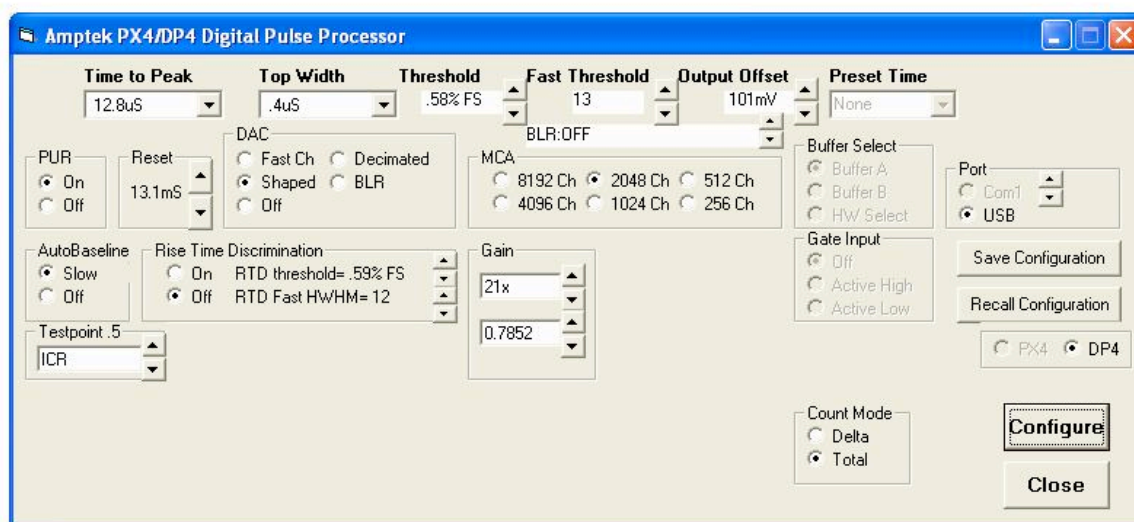

Figure 9. View of configuration setting “load DP4 configuration panel”
- “load DP4 config panel” (Figure 9): Opening this panel allows the setting for the DP4 digital pulse processor to be changed. Refer to the AmpTek manual (Appendix A) on the DP4 for more information about these parameters.